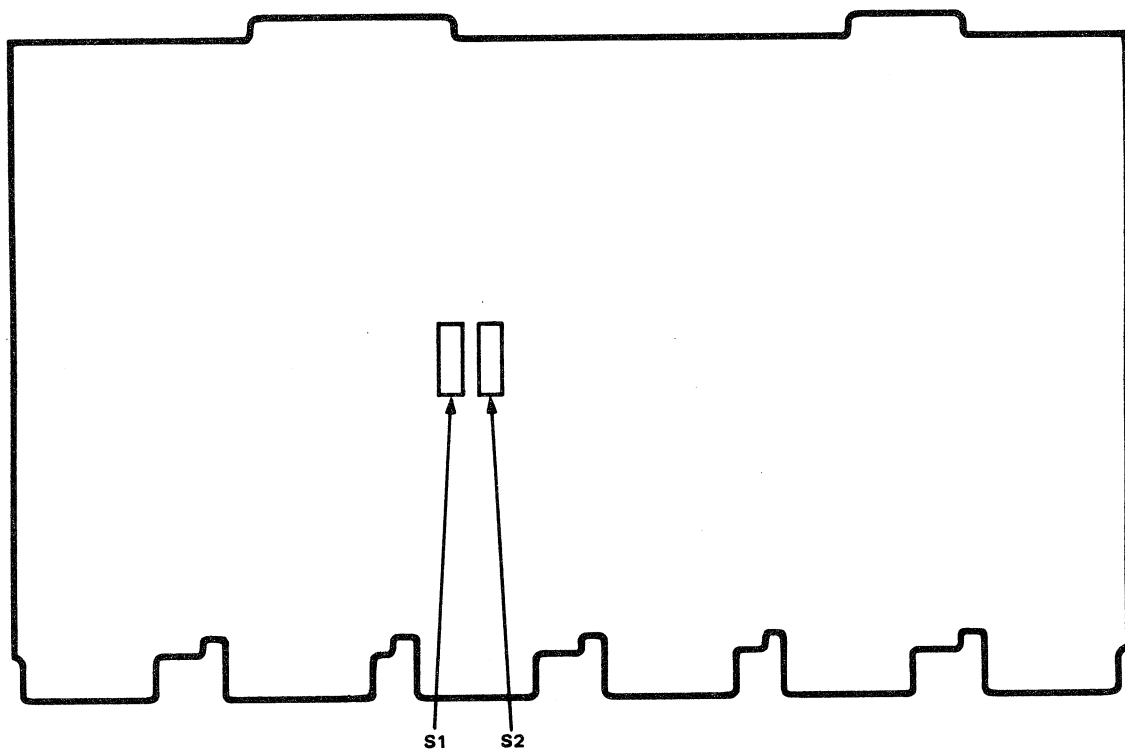

Figure C-11 HAC Configuration
1. Check the settings of the microswitches in locations S1 and S2 on the HAC (shown in Figure C-11). In location S1, all settings except 4 should be open (i.e., off); 4 should be closed (i.e., on). In location S2, all settings except 8 should be open; 8 should be closed.